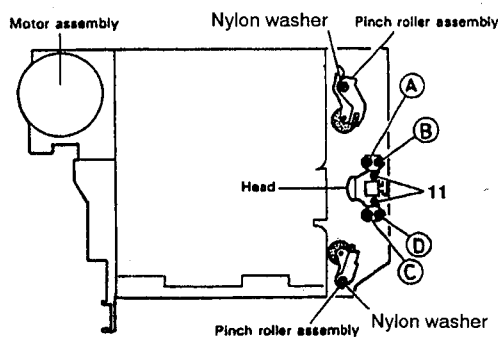

Fig. 4-10
■ **Pinch roller assembly** (Fig. 4-10)